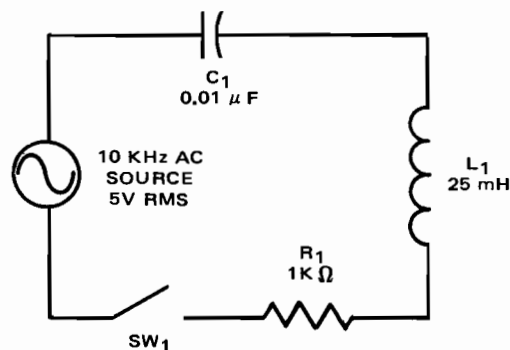

Fig. 11-2-1
1. Construct the series resonant test circuit as shown in Fig. 11-2-1